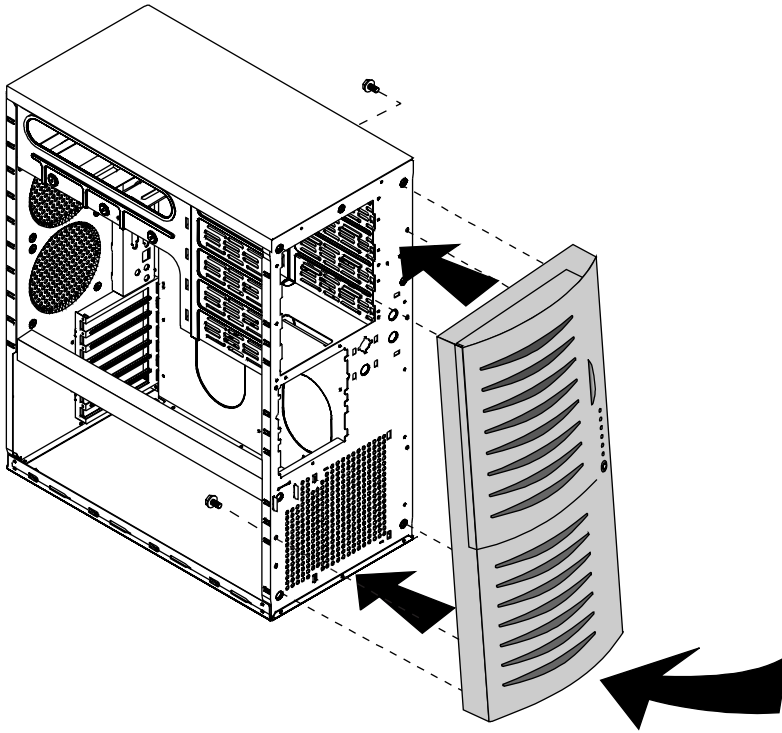

Figure 5: Replacing the Front Bezel
1. Position the bezel to the front of the chassis so that the bezel pegs are aligned with the mount holes on the front of the chassis. See Figure 5.